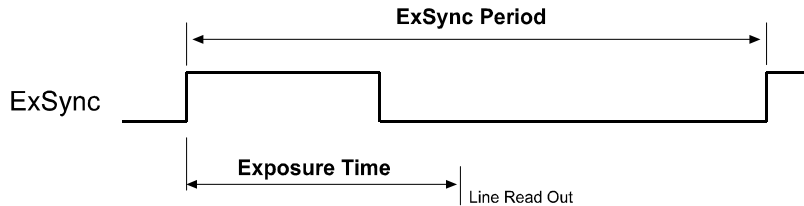

Figure 3-5: ExSync, Programmable Mode
- In **ExSync programmable** mode, the rising edge of ExSync triggers exposure and charge accumulation for a pre-programmed period of time. The lines are read out and transferred at the end of the pre-programmed period. The falling edge of ExSync is irrelevant (see Figure 3-5).